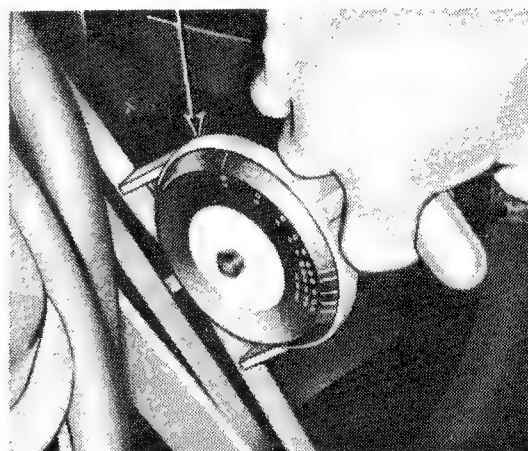

FIG. 1 Belt Tension
1. Install the belt tension tool on the drive belt (Figure 1) and check the tension.